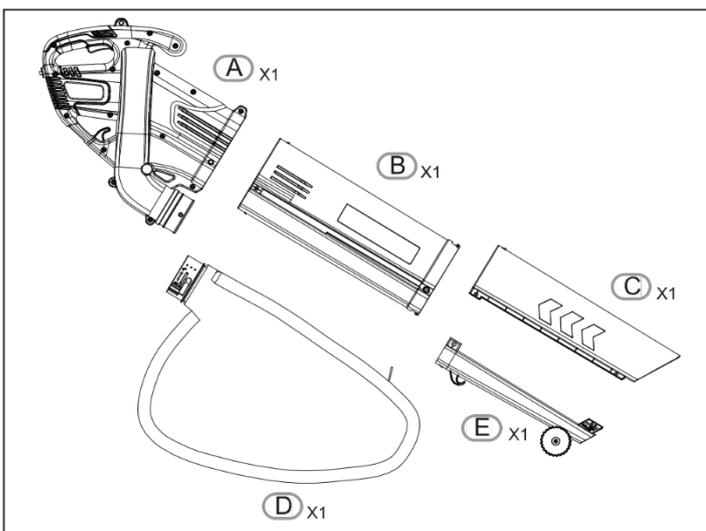
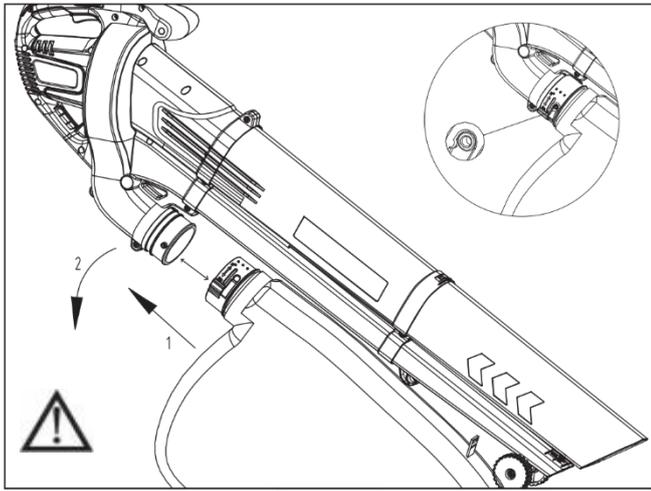

Fig. 1
Fig. 2
Assembling the blower tube (Fig. 1, Fig. 2)
1. Align the lower tube (E & C) to the upper tube assembly (B). First insert the lower tube (E&C) all the way to the stop. Use a flat head screwdriver to secure the connection with 4 security screws, 2 on each side. (Fig.1)
2. Align the assembled tubes to the main unit(A) and insert them all the way to the stop. Use 1 security screw on the left side and 1 cross head screw on the right side to secure the connection (Fig 1).
(Fig. 2).